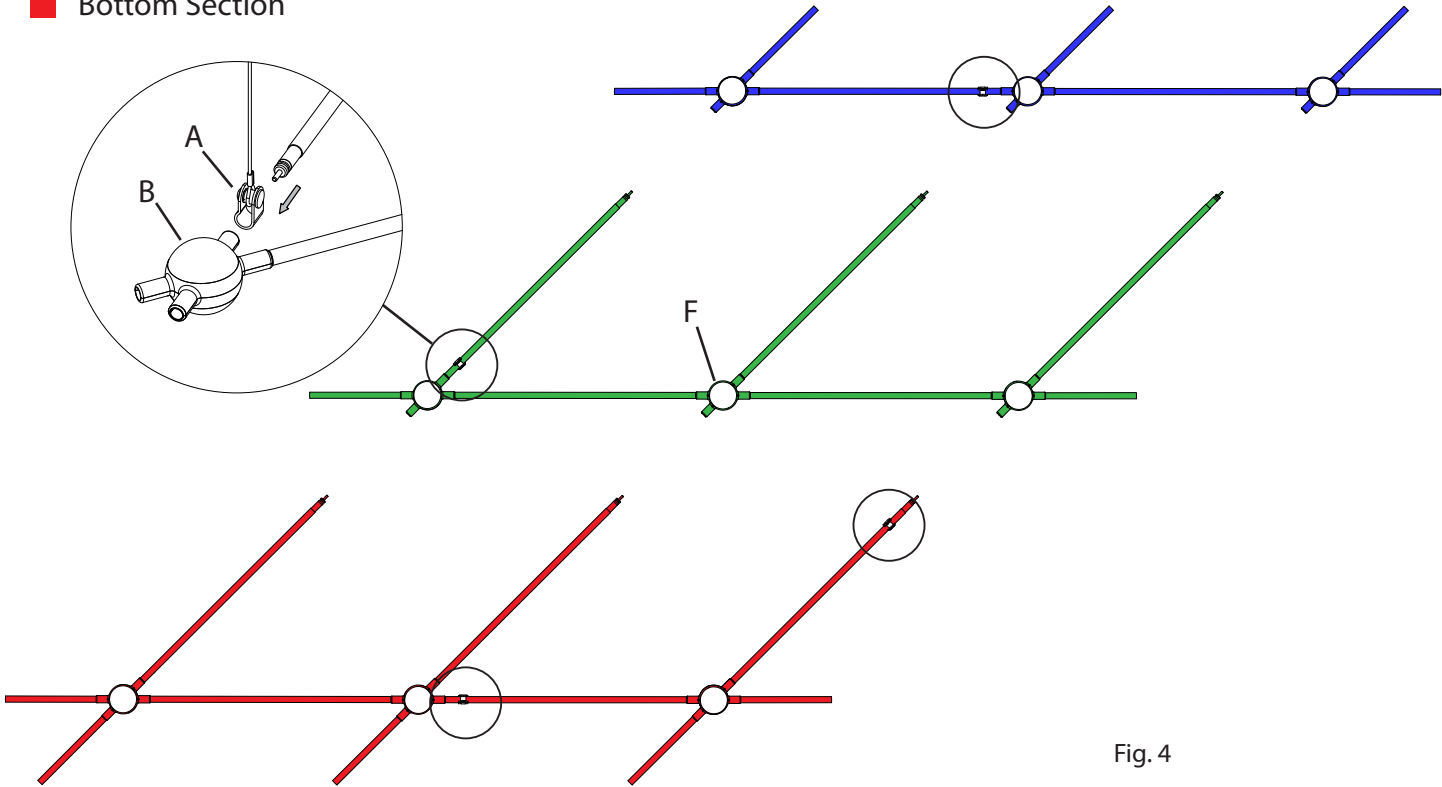

Fig. 4
6. Assemble Hang Clips (A) near Hubs (B) as shown in Fig. 4.